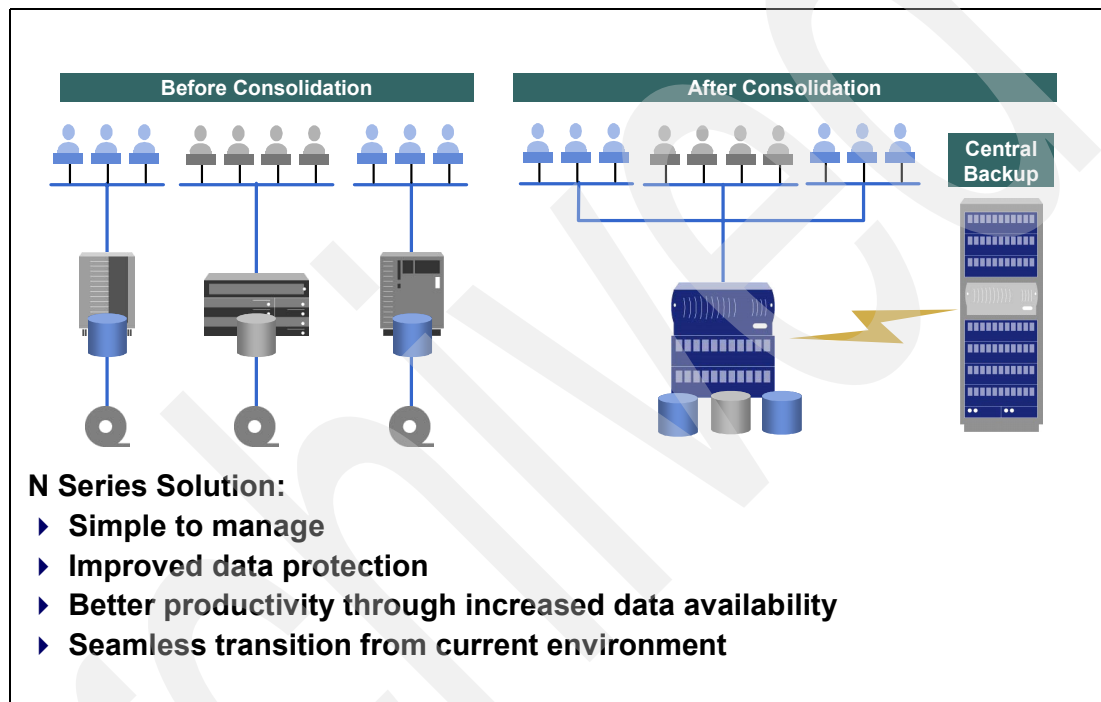

Figure 5-27 Consolidation Architecture
- N Series storage system consolidated file serving and home directory storage reduces costs. You get more efficient storage utilization, fewer servers to manage, and fewer software upgrades. And, you can expand storage quickly and easily, when you need it, at a lower incremental cost. The administration load is high for Windows servers with continuous streams of patches and OS updates. See Figure 5-27.